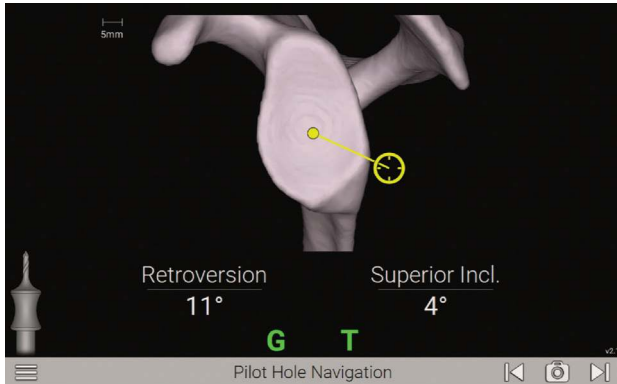

Figure 54a
Follow the on-screen guidance to place the components according to the plan (Figures 54a and 54b). Both the pilot hole and k-wire insertion screens are guided in a similar fashion with real-time feedback on the position of the Driver.
- For positioning of the Drill, the tip of the Drill is indicated by a yellow dot (Figures 54a and 54b).
- The planned position is indicated by a blue dot (Figure 54a).